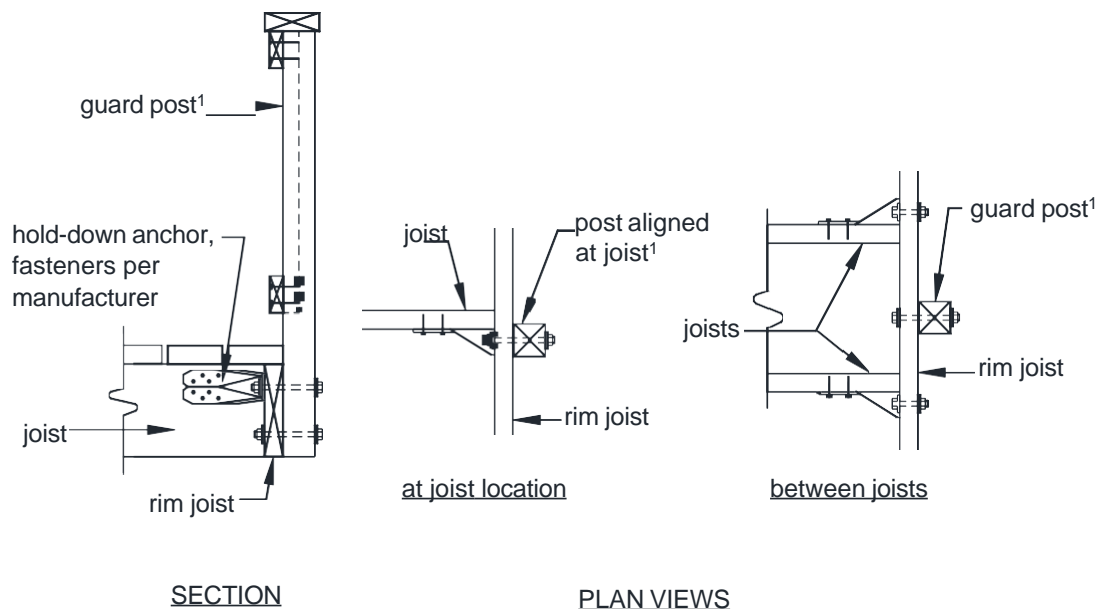

FIGURE 37: GUARD POST-TO-RIM JOIST
- Hold-down anchors, as shown in **FIGURES 37** and **38**, shall be used to attach the guard post to the end joist and rim joist, respectively.